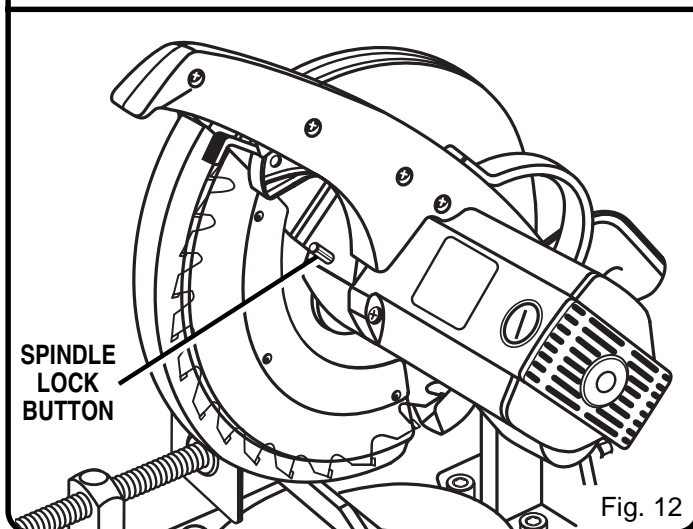

Fig. 12
- Depress the spindle lock button and rotate the blade bolt until the spindle locks. *See Figure 12.*